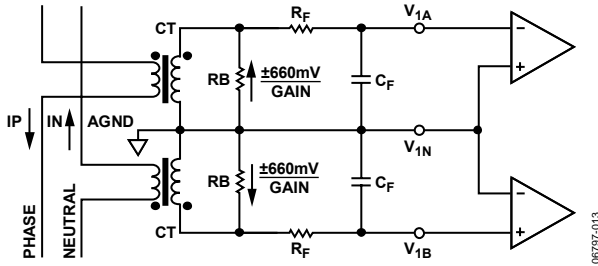

Figure 15. Typical Connection for Channel V1
Figure 15 shows a typical connection diagram for Channel V1. The analog inputs are used to monitor both the phase and neutral currents. Because of the large potential difference between the phase and neutral, two current transformers (CTs) must be used to provide the isolation. Note that both CTs are referenced to analog ground (AGND); therefore, the common-mode voltage is 0 V. The CT turn ratio and burden resistor (RB) are selected to give a peak differential voltage of ± 660 mV/gain.